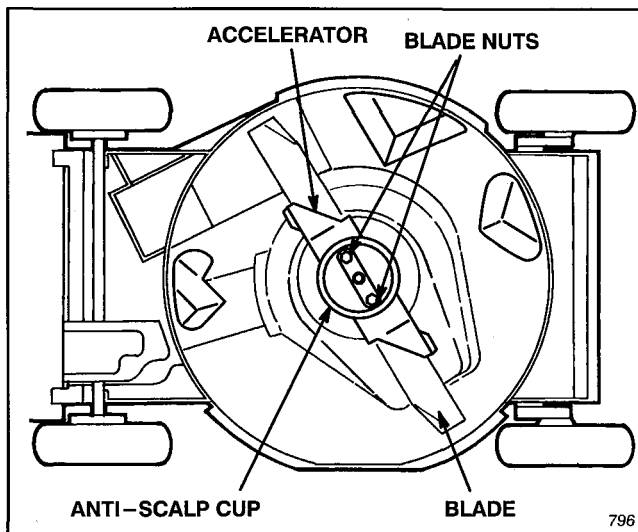

Figure 24
3. Tip mower on its left side (Fig. 24). Avoid rotating blade as starting problems may result.
5. **REMOVING BLADE**—Grasp end of blade using a rag or thickly padded glove. Remove (2) blade nuts, anti-scalp cup, accelerator, and blade (Fig. 24).